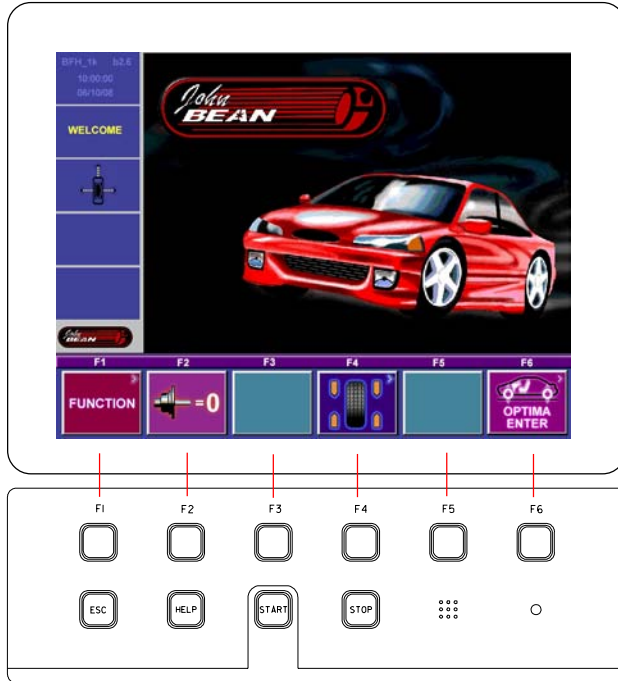

Figure 9
- Keys without a symbol in the upper right-hand corner or at the edge initiate an action immediately, such as F2 on the main screen means to perform a compensation process. See Figure 9.